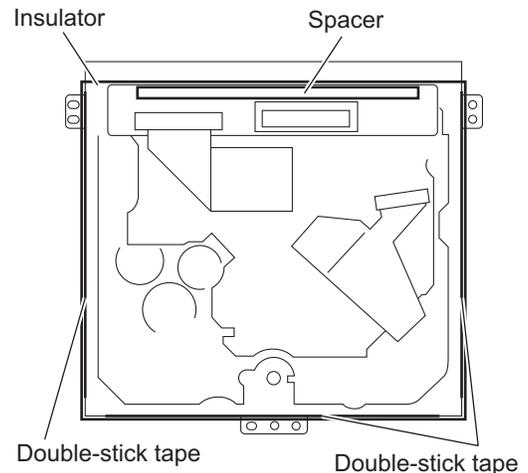

Fig.9
- From the side of the DVD mechanism assembly, remove the double-stick tape fixing the insulator. (See Fig.9.)
- From the top side of the DVD mechanism assembly, remove the spacer attaching the insulator. (See Fig.9.)